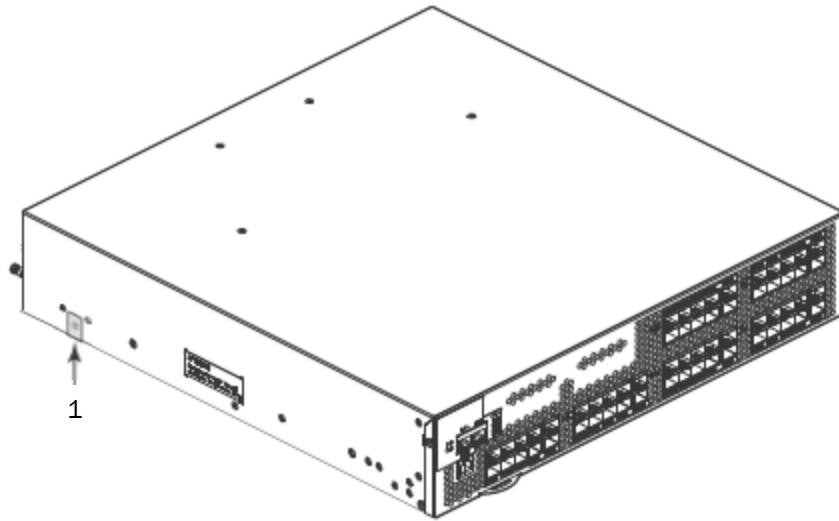
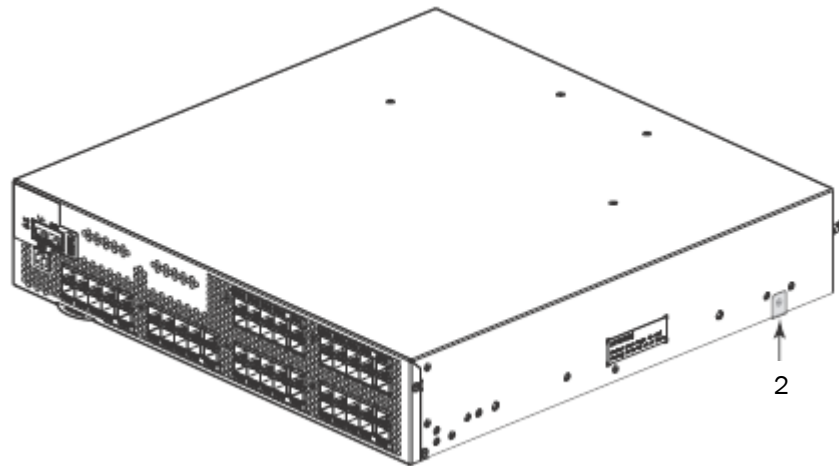

Figure 13 VDX 6720-40 and VDX 6720-60 left side seal location
Figure 14 VDX 6720-40 and VDX 6720-60 right side seal location
Two (2) tamper evident seals are required to complete the physical security requirements for the VDX 6720-40 and VDX 6720-60. See Figure 13 and Figure 14 for details on how to position each seal.